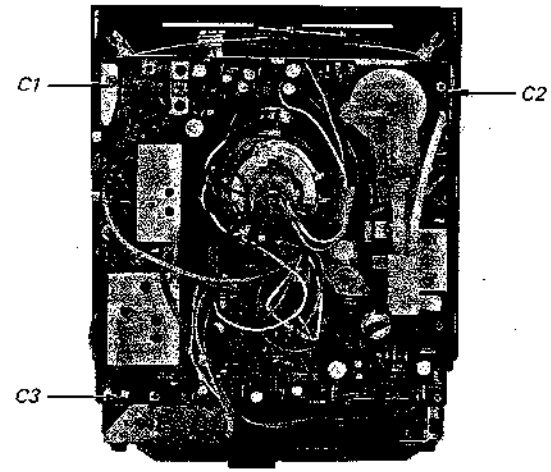

Fig. 2-5.
2. Remove the three screws labeled C1 - C3 in Fig. 2-5.